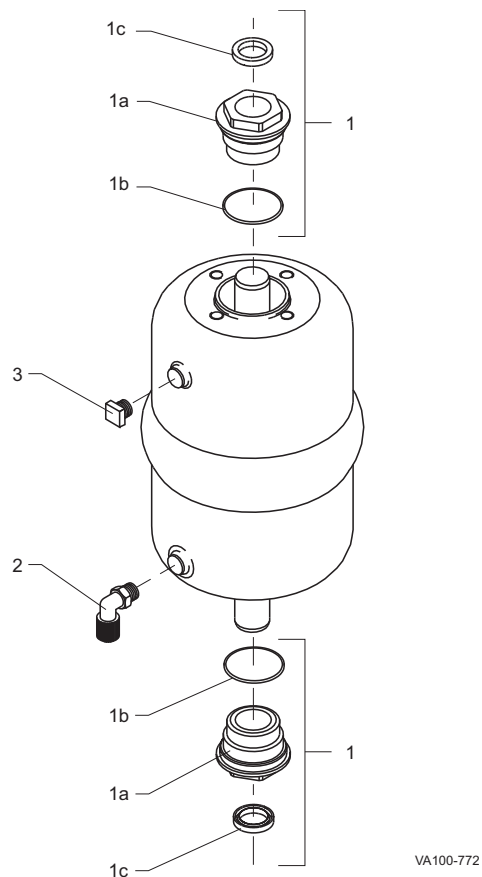

Figure 40: Maintenance-Free Actuator
2. Remove the O-ring guide nut assembly (Figure 40, item 1) from both ends of the actuator.
3. Replace the bearing (item 1c) and O-ring (1b).
4. Re-install the O-ring guide nut assembly (Figure 40, item 1) and tighten the guide nut (item 1a) until it is snug.